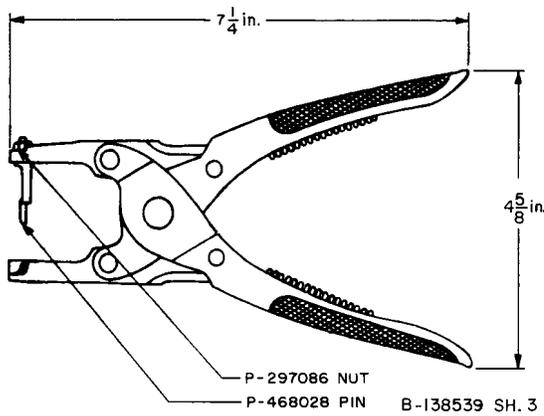

Fig. 8—494B Pawl Pin Remover Tool
2.10 **494B:** The 494B pawl pin remover tool (Fig. 8) is used in replacing pawl pins on 197- and 198-type switches. This tool forms part of the 1001A tool kit and replaces the 494A tool.